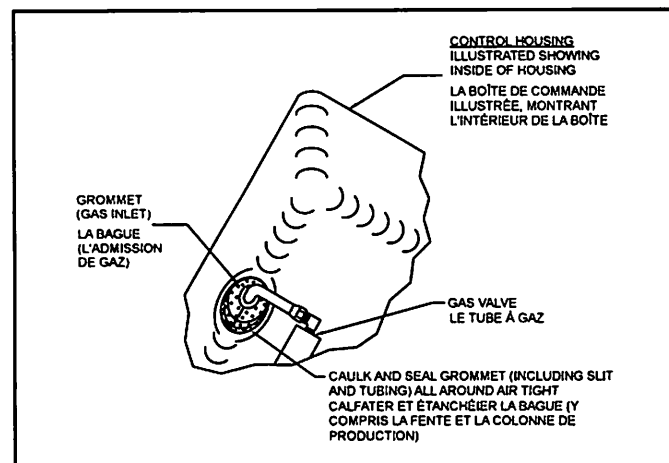

Figure 10
**WARNING!** It is imperative that grommet and gas line through grommet be caulked air tight. If not tightly sealed, moisture and potential harmful flue products could vent through opening and into living area of trailer. (See Figure 10.)